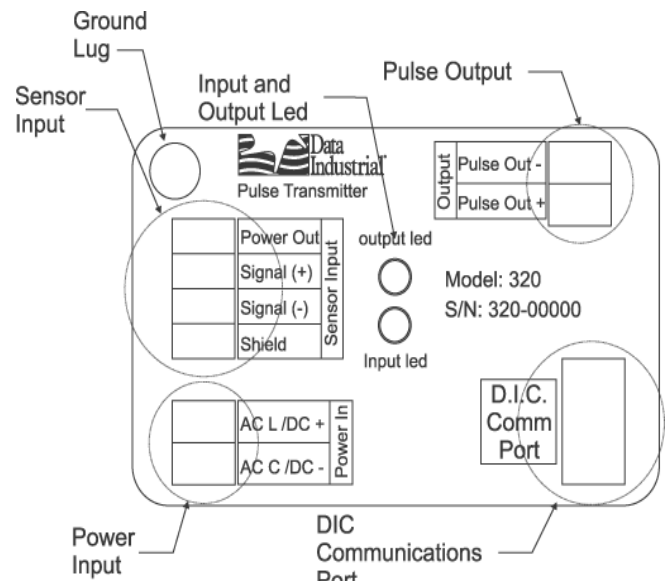

Figure 1
1. Refer to figure 1 for terminal connections.